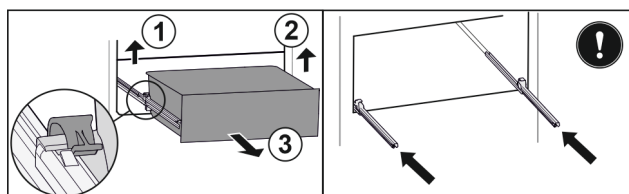

Fig. 30
- Lift left clamp and simultaneously pull drawer forwards on the left. Fig. 30 (1)
- Lift right clamp and simultaneously pull drawer forwards on the right. Fig. 30 (2)
- Remove drawer to the front. Fig. 30 (3)